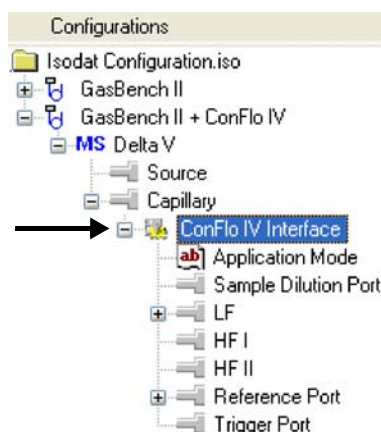

Figure 5-44. Set appended to capillary port
9. The ConFlo IV + GasBench set will then be appended to the capillary port. See Figure 5-44.